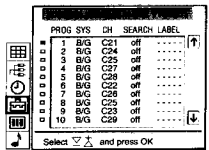

Fig. 19
- Select »Manual Programme Preset« with Δ+ or ∇- and press OK. The MANUAL PROGRAMME PRESET menu appears. (See Fig. 19.)